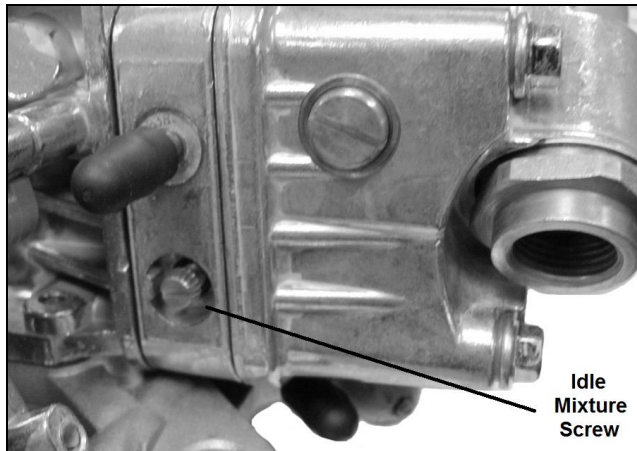

Figure 11
2. Adjust each idle mixture screw (Figure 11) 1/8 turn at a time, alternating between each screw. Turn them equally, until you achieve the highest possible vacuum reading without adjusting the curb idle speed screw. Turn screws in to lean the mixture. Turn them out to richen the mixture.